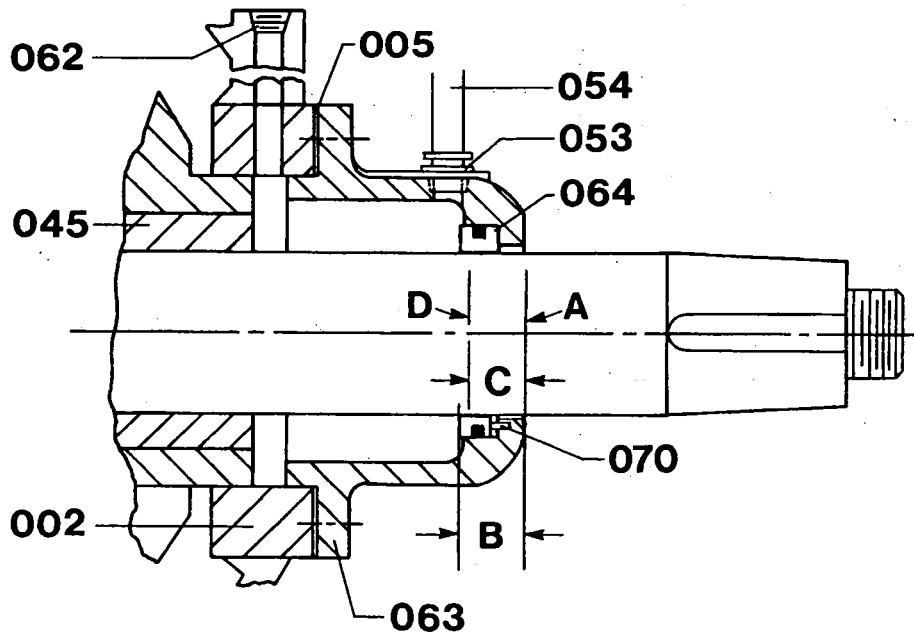

FIGURE 4. Position Setting of Seal Rotating Assembly (Seal 676)
SEALOL MECHANICAL SEAL. The rotating assembly of the Sealol mechanical seal is installed on the power rotor (034), with setscrews, in a non-compressed or free length condition. When the seal housing (063) is installed, with mechanical seal stationary parts, the seal is compressed to its correct working length only if the seal rotating assembly is correctly positioned when it is installed. To determine correct seal rotating assembly installed position, proceed as follows: (Refer to Figure 4 unless otherwise noted.)
Install gasket (005) and seal housing (063) on cover (002). Pull power rotor from pump until collar (042) contacts bushing (045). Lightly scribe power rotor at position "A" of Figure 4. Remove seal housing (063) and gasket (005) from cover (002). Wipe light lubricating oil in stationary parts bore of seal housing (063) and on stationary mechanical seal parts (1 and 2, Figure 8). Slide mating ring packing (2, Figure 8) in groove of mating ring (1, Figure 8). Align pin slot of mating ring (1, Figure 8) with spring pin (070) and slide assembled mating ring in seal housing (063). Refer to dimension "B," Figure 4, then measure distance "B" on assembled seal housing. Determine distance "C" by subtracting 0.180-inch from distance "B."
Holding the bellows assembly (3B, Figure 8) at the setscrew thread area, slide the rotating assembly (3, Figure 8) on power rotor until insert (3A, Figure 8) outside face is at position "D" identified in Figure 4. Do Not push on insert (3A, Figure 8) or bellows area of bellows assembly (3B, Figure 8) when sliding rotating assembly (3, Figure 8) on power rotor.